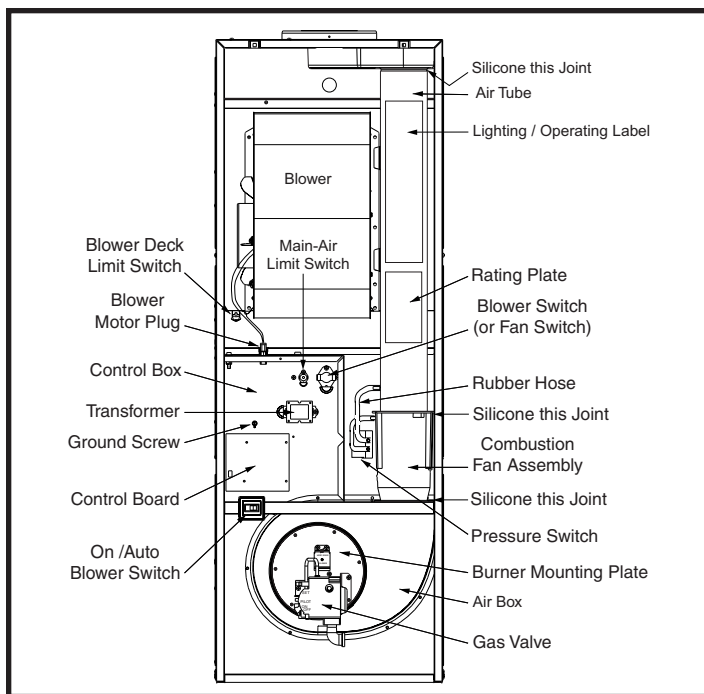

Figure 2. Typical Converted Furnace
1. Using the fasteners included in the conversion kit, secure the pressure switch to the air casing of the furnace, as shown in Figure 2. The mounting holes for the pressure switch will be present in the air casing.
NOTE: No additional fastener will be required to secure the air tube to the combustion fan. Make sure the pressure tap in the 4 inch diameter is aligned with the pressure tap in the combustion fan, and that the taps are as close together as possible, as shown in Figure 2. The taps should point towards the pressure switch.
1. Insert the burner back into the heat exchanger as shown in Figure 2.